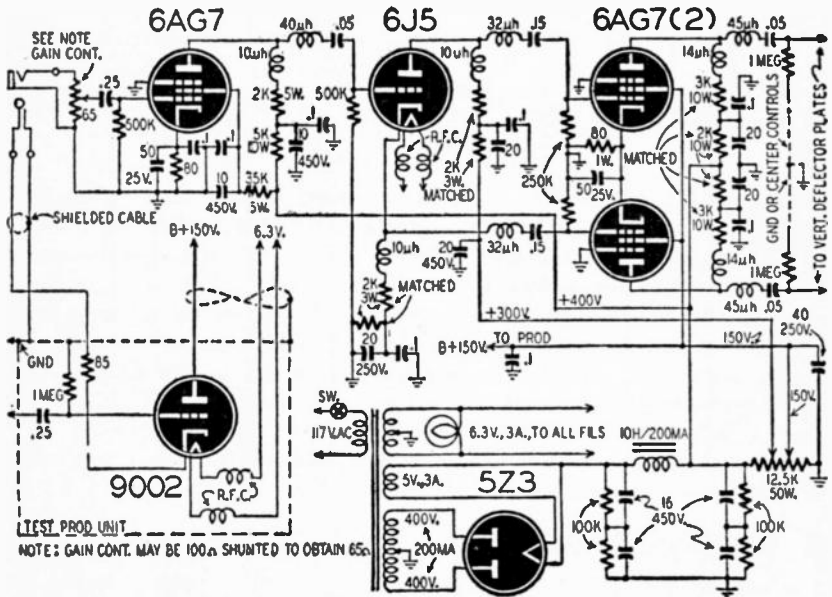

Fig. 614
A. A wide-band amplifier circuit is shown in Fig. 614. It will give good results up to 5 mc if care and high-quality parts are used in the construction.